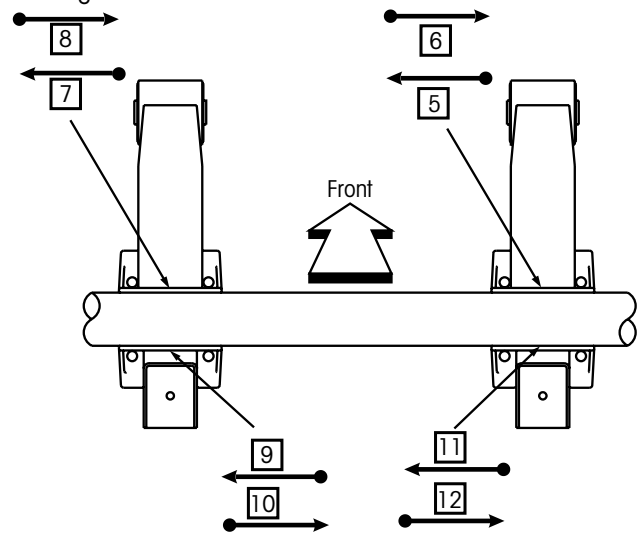

Figure 8: *Second and third pass weld sequences*
2. Continue with the second and third weld passes after all four root passes, Figure 8.